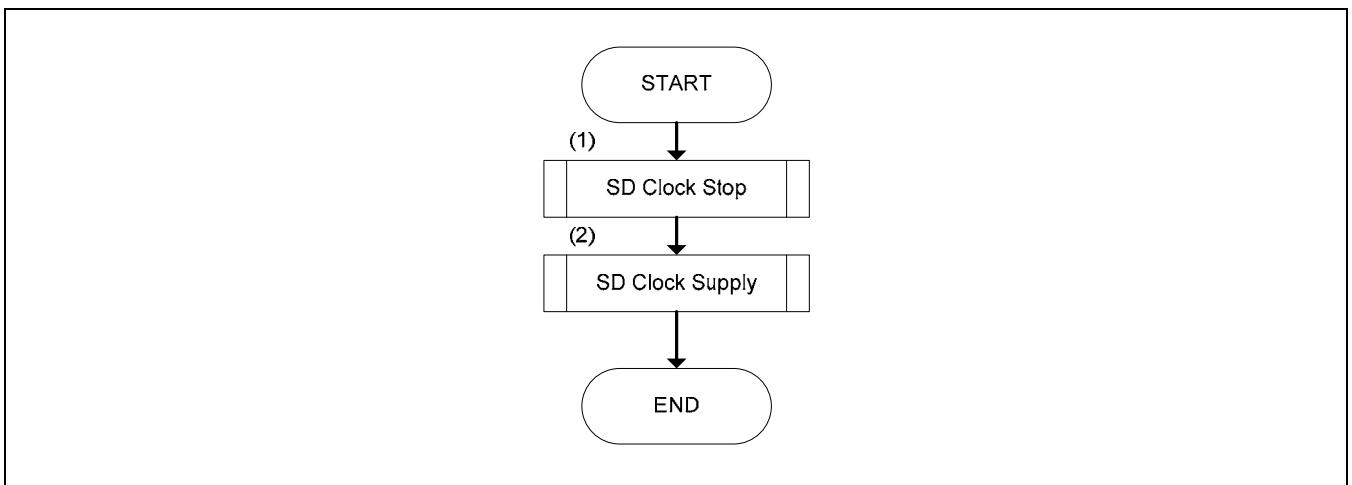

Figure 8.12-5 SD Clock Change Sequence
The sequence for changing SD Clock frequency is shown in Figure 8.12-5. If SD Clock is still off, skip step (1).
The steps shown in Figure 8.12-5 are explained below: